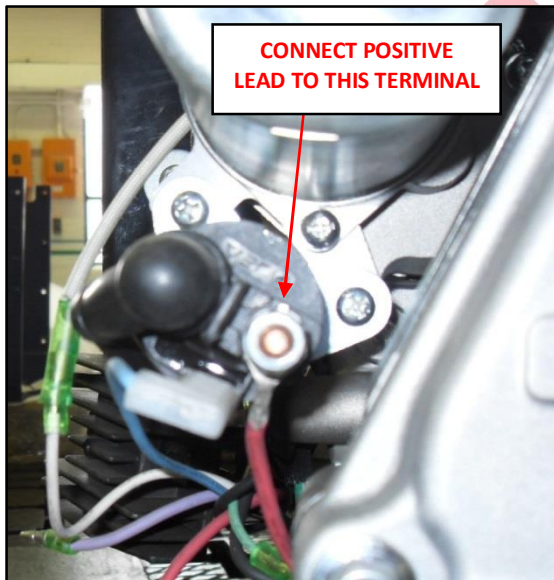
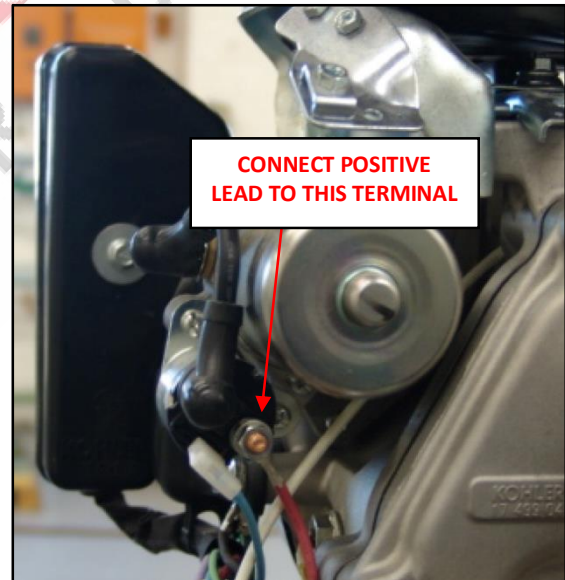

Figure 1
Figure 2
- 4) The positive lead should be color coded RED and all connections should be enclosed by non-conducting covers. See Figure 1 for Kohler (gas) connection. See Figure 2 for Honda (gas) connection.
- 5) The positive lead should be color coded RED and all connections should be enclosed by non-conducting covers. See Figure 2